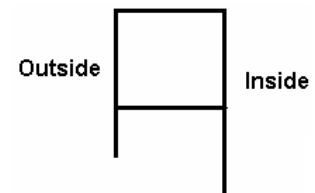

FIG 3
2. Ensure the shorter side on the wall profile is to the outside. **Fig 3**